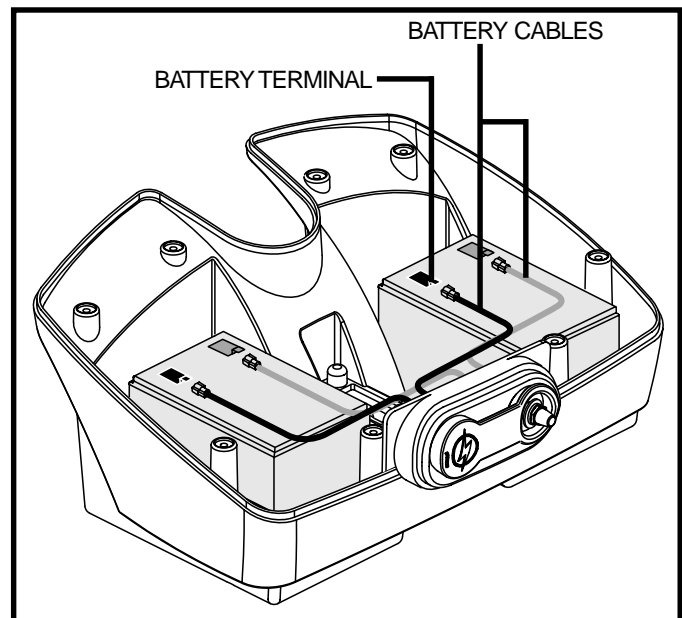

Figure 16. Battery Replacement
3. Remove the eight (8) screws from the perimeter of the battery pack.
5. Disconnect the black (-) and red (+) battery cables from the battery terminals of each battery. **See figure 16.**